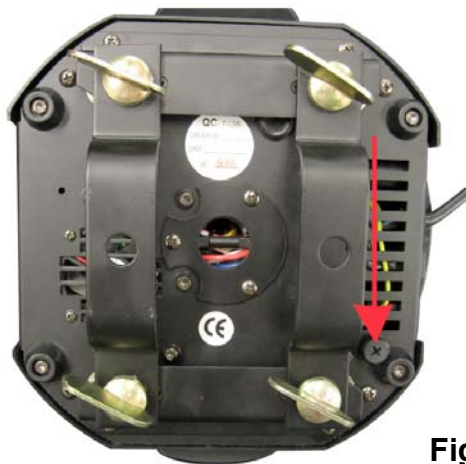

Fig. 9
2. Insert a flat-head screwdriver into a slot in the fuse cover (see Fig. 9). Turn the screwdriver to the left, at the same time gently push a bit (Turn and Push). The fuse will come out.